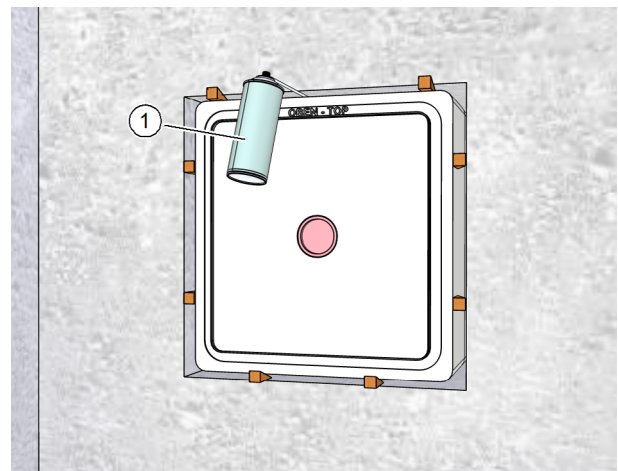

Fig. 14: Filling gaps around the wall box with foam
- ▶ Fill the gaps between the wall box and wall breakthrough all around and continuously with expanding foam (item 1 in Fig. 14) or using another suitable filling material.